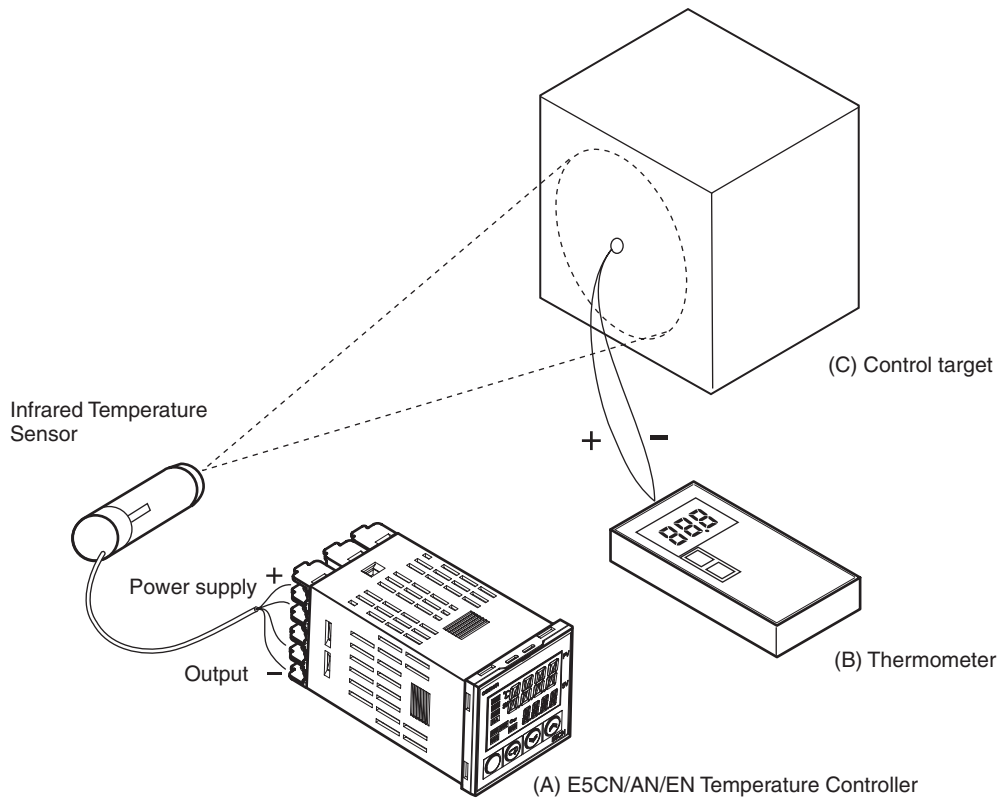

Figure 1 Offset Configuration for an Infrared Temperature Sensor
2. Prepare a thermometer capable of measuring the temperature of the control target as shown in *Figure 1* so that a 1-point shift or 2-point shift can be carried out.
1. In the configuration shown in *Figure 1*, bring the set point to near the value at which the temperature of the control target is to be controlled. Assume that the control target temperature (C) and the thermocouple temperature (B) are the same.